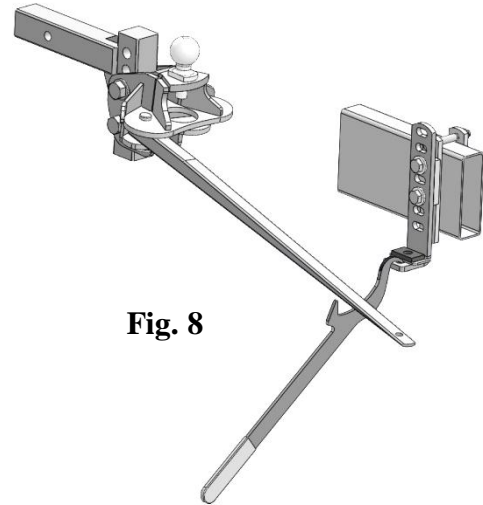

Fig. 8
- To place the spring bar on the L-bracket (L), keep the coupler attached to the ball. Raise the coupler using the tongue jack until the spring bar will go onto the L-bracket (L).
- If the jack will not raise the coupler high enough, use the lifting handle shown in the Fig. 8 below. Place the hooked end of the handle in the rectangular hole of the L-bracket (L). Place the end of the spring bar as shown and lift the handle. Remove the handle.